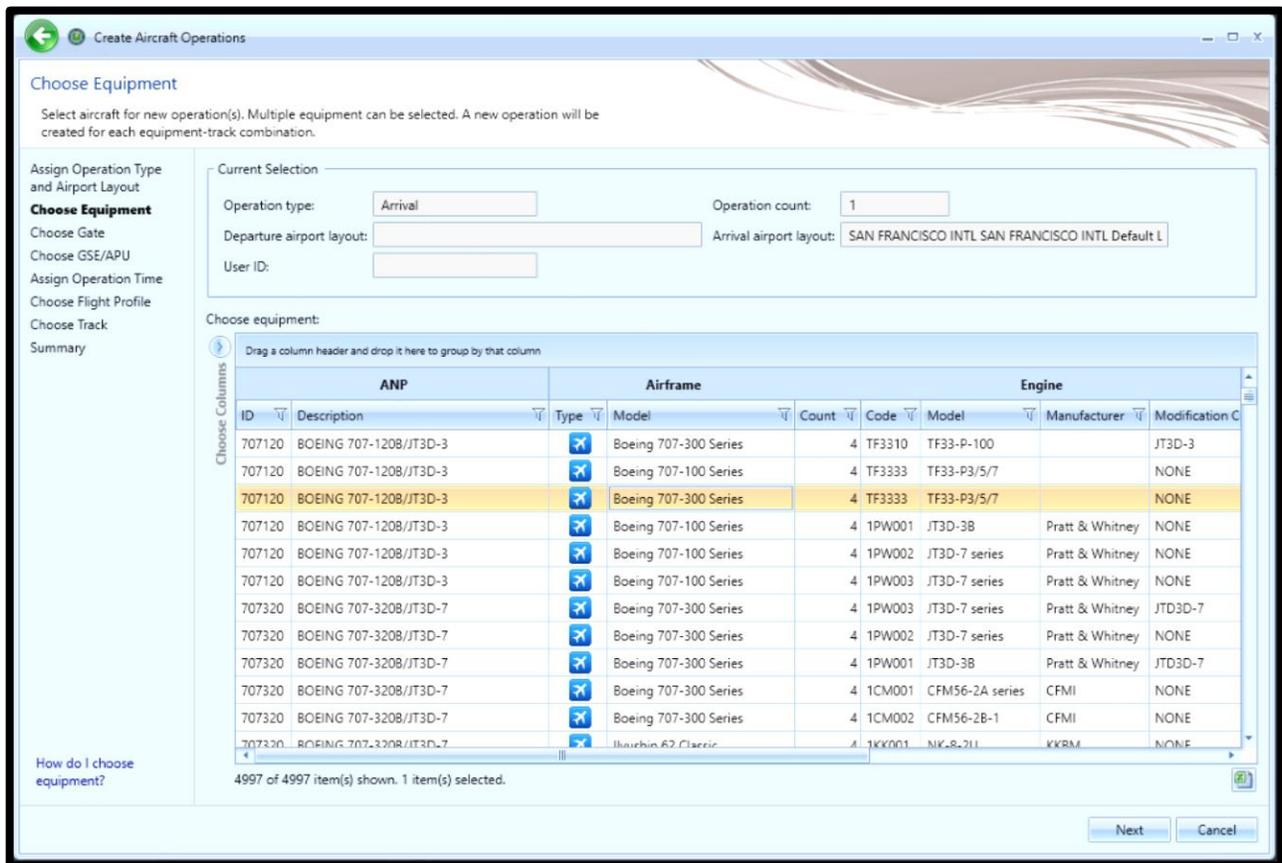

Figure 21- Create Aircraft Operations – Choose Equipment
6. Select the record for the 707120 and select *Next* (Figure 21).